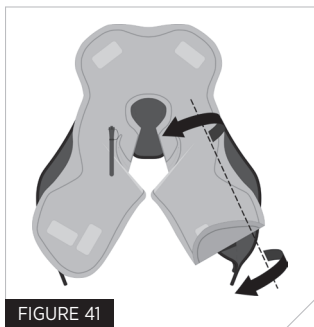

FIGURE 41
2. Fold outside edge in towards the centre of the bladder along fold line 2 (Fig 41).